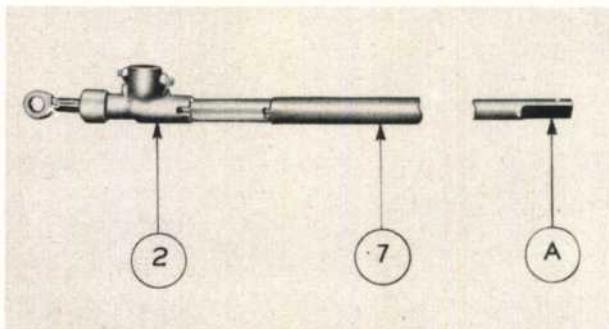

Figure 26—Showing Alignment of Shock Unit Assembly and Bearer Tube
When reassembling shock unit assembly in right bearer (7), position of shock unit assembly must be correct in relation to flat surface (A) on bearer assembly. (See figure 26.)